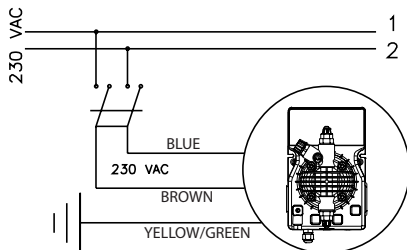

Fig. 4
1. Disconnect the pins from the mains or by means of a two poles switch with 3 mm minimum distance between the contacts. (Fig. 4).
- b. - Carefully observe the regulations in force in the various countries as regards electrical installations (Fig. 4). **When the supply cable is devoid of a plug, the equipment should be connected to the supply mains by means of a single-pole circuit breaker having a minimum distance of 3 mm between the contacts. Before accessing any of the electrical parts, make sure that all the supply circuits are open.**